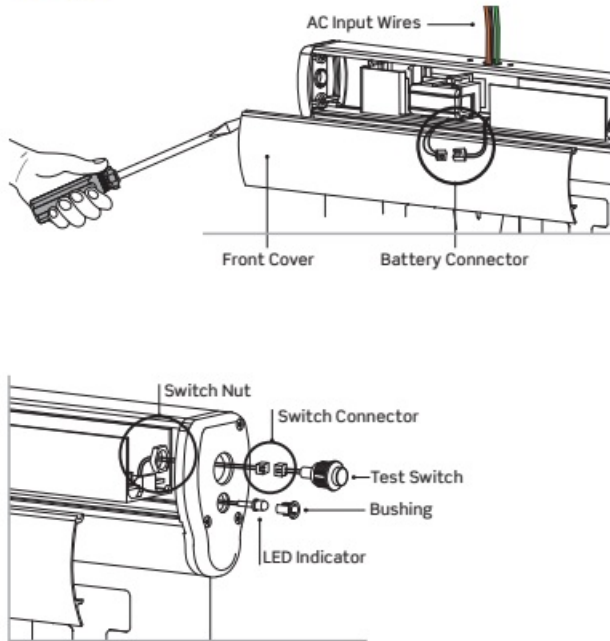

FIGURE 9
6. For Ceiling/Wall Mount: Feed AC Supply Wires through center hole on top of Housing (Figures 9 and 10).